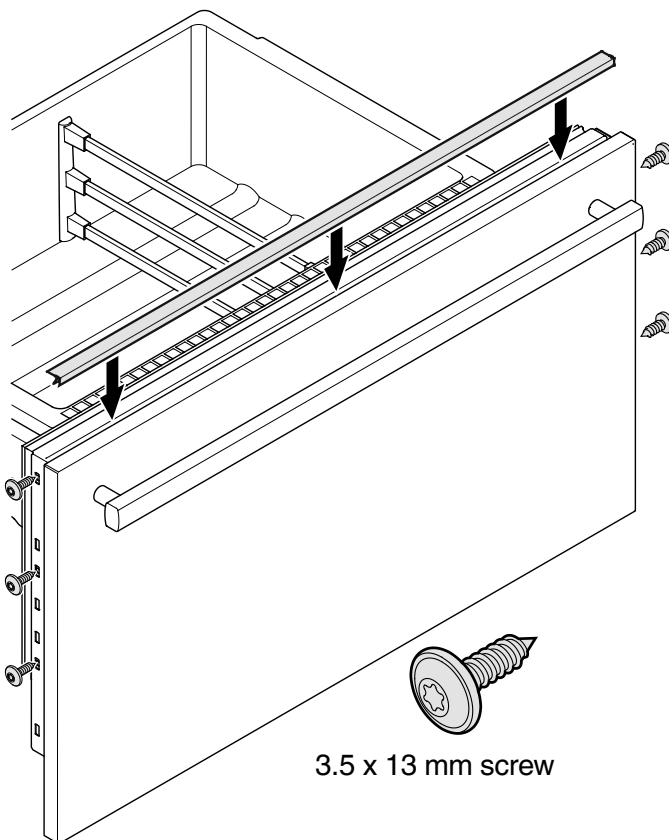

Figure 43
- Figure 43
1. Pull out the upper freezer drawer and screw on the panel with three screws on the left and right sides using the screws as shown in **Figure 43**.